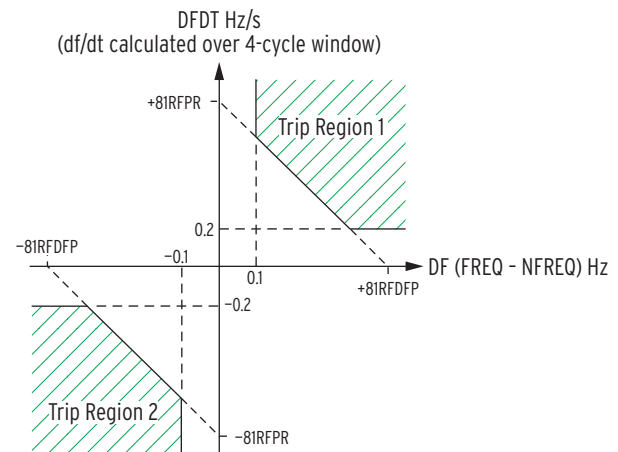

Figure 18 81RF Characteristics
The fast rate-of-change-of-frequency protection, 81RF, provides a faster response compared to frequency (81) and rate-of-change-of-frequency (81R) elements. Fast operating speed makes the 81RF element suitable for detecting islanding conditions. The element uses a characteristic (see *Figure 18*) based on the frequency deviation from nominal frequency ($DF = \text{FREQ} - \text{NFREQ}$) and the rate-of-change of frequency (DFDT) to detect islanding conditions.